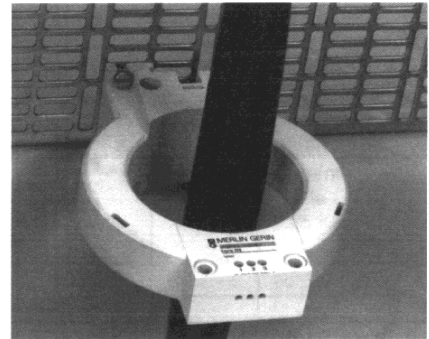

Figure 85: CT assembly mounted on frame
- on a frame (CSH 30, CSH 120, CSH 200); see figure 85